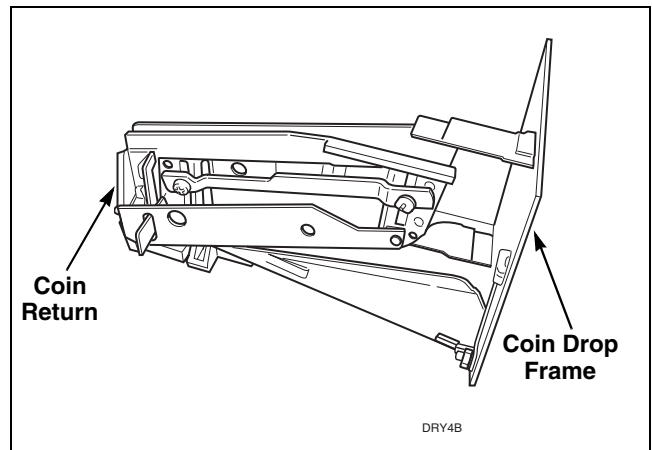

Figure 50
- g. Remove coin return from coin drop frame. Refer to *Figure 50*.